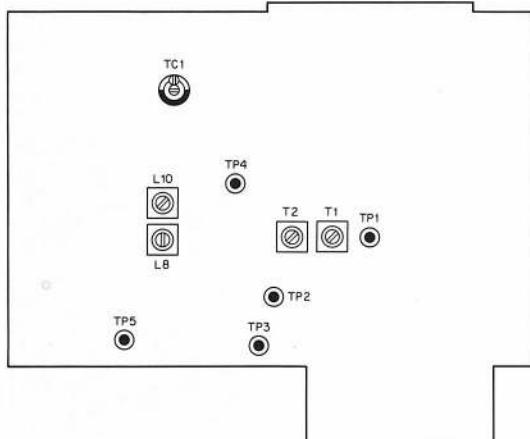

Fig. 33 Counter mixer unit (DG-1: Option)
- 2) Adjust the trimmer TC1 in the counter mix unit for 1 MHz \pm 5 Hz (refer to Fig. 33).
- 2) Connect RF VTVM to TP2 in the counter-mixer unit (X48-1150-00) and adjust T1 and T2 in the same unit until the peak value is obtained (output is approx. 0.12 to 0.2V) (refer to Fig. 33).